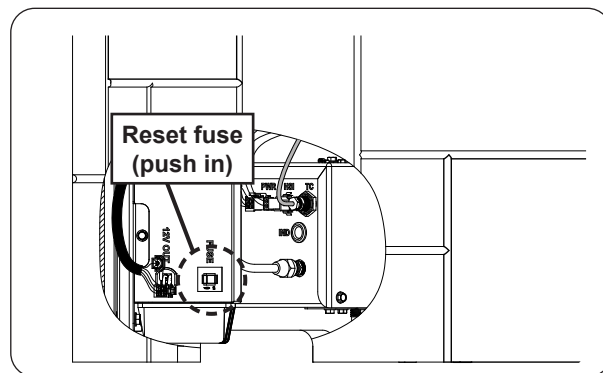

Fig. 51-2 Reset fuse
2. Gain access to the valve box and reset the fuse by pushing it in (see Fig. 51-2).